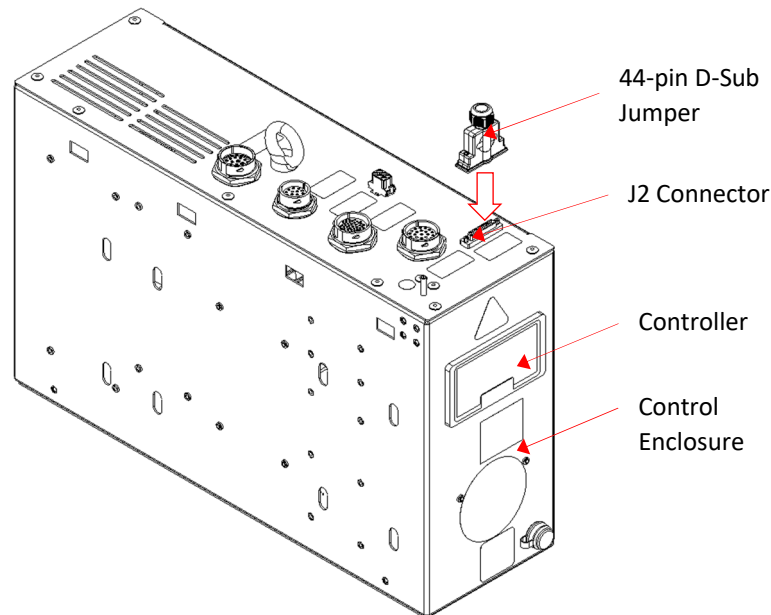

Figure 2-32: 44-Pin D-Sub Jumper Installation
- a. Connect the provided 44-pin D-sub Jumper (DTS PN 710205) connector to the J2 connector on the Control Enclosure (refer to Figure 2-32). ***The 44-pin D-sub Jumper is obtained from the Ship Loose Box (refer to 2.4).***